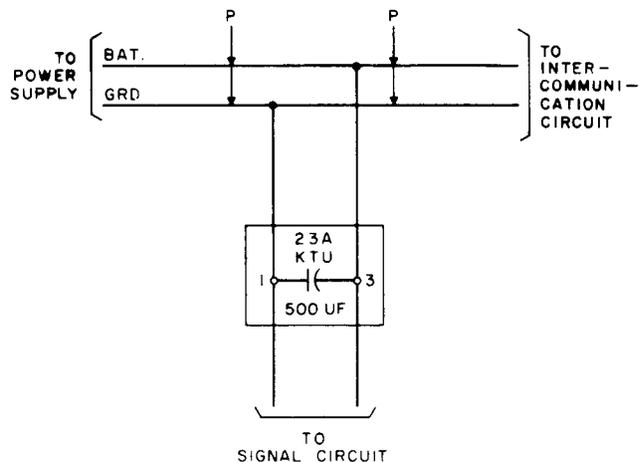

Fig. 20—Noise Suppression Filter Connections
5.05 Where a common battery feeder is used for intercommunicating and signaling, connect a 23A KTU across the signal circuit (Fig. 20) for noise suppression.